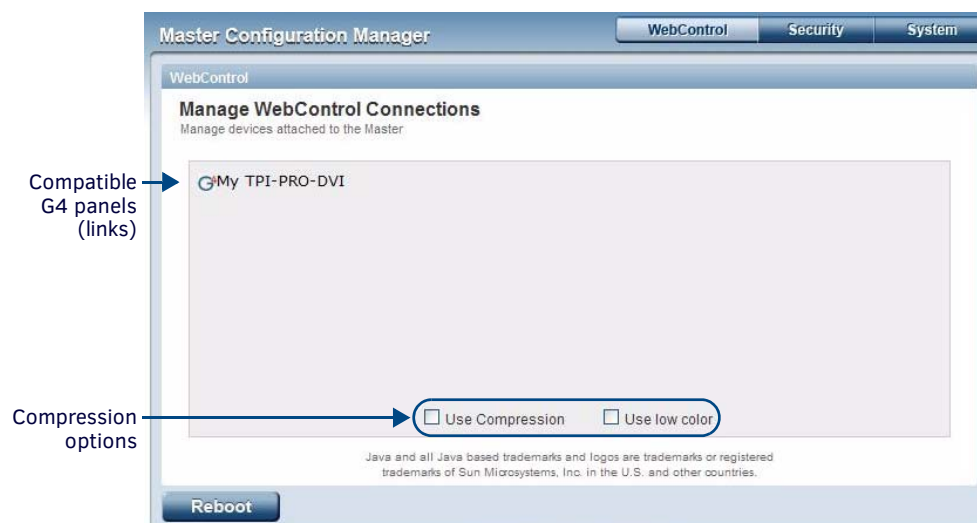

FIG. 85 Manage WebControl Connections page (indicating one compatible panel)
5. Click on **Manage connections** to access the *Manage WebControl Connections* page (FIG. 85). This page displays links to G4 Touch Panels running the G4 Web Control feature (which was previously setup and activated on each Touch Panel).
7. Click on the G4 Touch Panel link associated with the target panel (see FIG. 85). This invokes a secondary browser window.